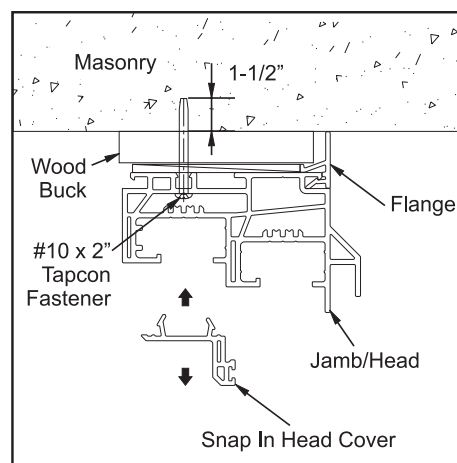

Figure DH 5
6. Secure the window in the opening through the pre-drilled holes in jambs and head using Tapcon® masonry fasteners. To access installation screw holes in the head, use a putty knife to remove snap in head cover. Replace head cover after screws are set. All fasteners must have at least a 1-1/2" penetration into the masonry. See Figure DH 5 (head shown, jamb similar).
6. Secure the window in the opening through the pre-drilled holes using Tapcon® masonry fasteners. All fasteners must have at least a 1-1/2" penetration into the masonry. See Figure DH 5.